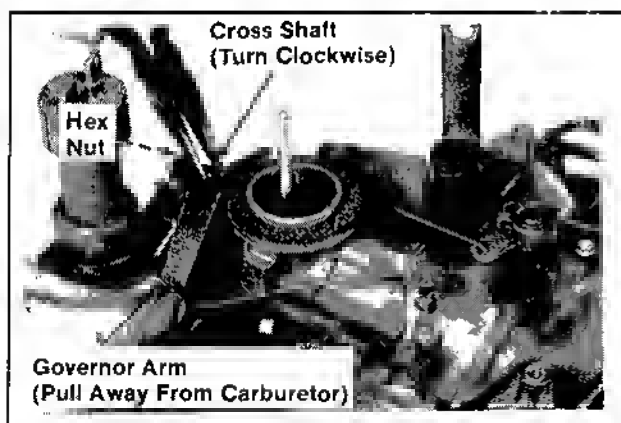

Figure 11-49. Adjusting Governor Arm/Cross Shaft.
7. Governor Adjustment (refer to Figure 11-49):